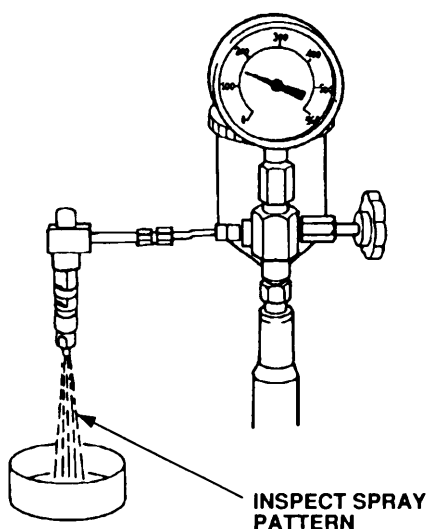

Figure 5-6. Injection Nozzle Testing.
- a. Connect injection nozzle to injection timing pump (figure 5-6).